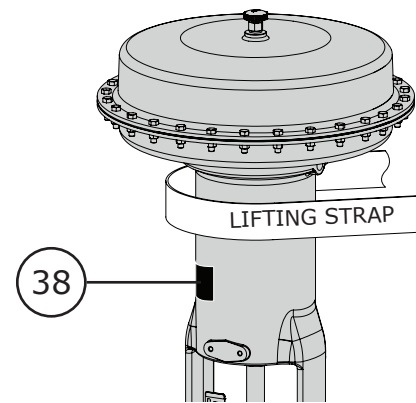

Figure 3 Actuator Lifting Hooks
Check the packing list, verify that the list includes all the materials in the shipping container before unpacking. Valve information can be found on the nameplate (Key 38). Refer to Figure 3 for nameplate location.
When lifting the valve from shipping container, place properly rated lifting straps securely around the neck of the actuator, refer to Figure 3 for strap placement. Straps should be placed to avoid damage to tubing and other mounted accessories.
- 3 Support the actuator - the actuator may be able to be removed manually on the smaller sizes. When lifting the valve from shipping container, place properly rated fitting straps securely around the neck of the actuator, refer to Figure 3 for strap placement. Straps should be placed to avoid damage to tubing and other mounted accessories.